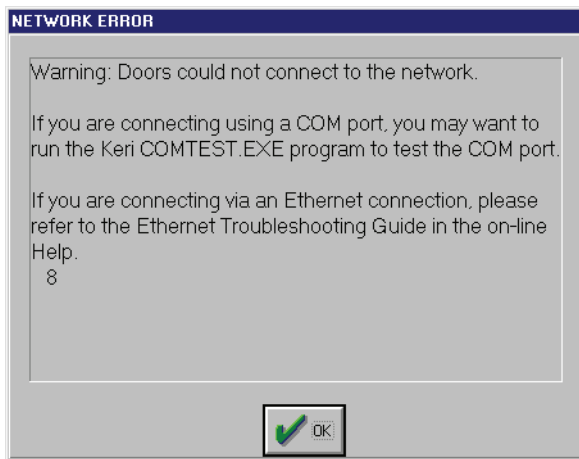

Figure 2-41: Unsuccessful Autoconfiguration
1. If the host computer cannot establish communication with the access control network, the Network Error window appears (see Figure 2-41).